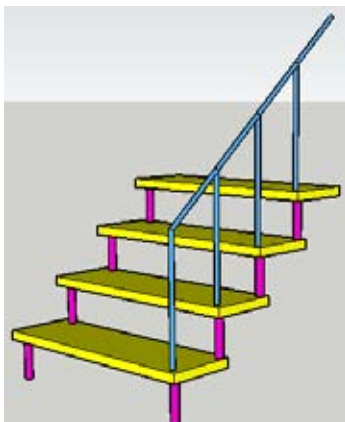

Figure 7-103
8. The Follow Me face for the rail is a small circle, extruded along the two Follow Me lines. When the rail is completed, make it a component, and close the tread component (Figure 7-103).